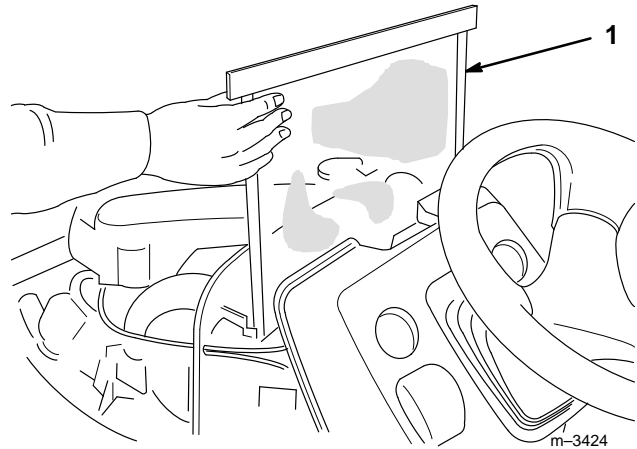

**Figure 7**
2. Check for debris on the (3) air intake screens (Fig. 7). Wipe away debris before each use and/or during use, if required.